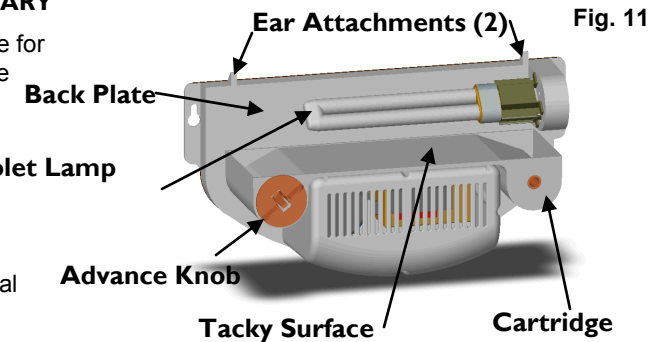

Fig. 11
2. Fig. 10 is a back view of the sconce attachment features. The sconce has open slots for ease of assembly, disassembly, and ease of cleaning. The back frame (Fig.11) has two ear attachments, that fit into slots on sconce (Fig.10). Simply align the sconce slots over the ear attachments. When you wall mount the unit, sconce will be firm against the wall. When you base mount the unit, sconce will rest on the back plate and base.
The tacky surface of the Cartridge advances slowly and remains effective up to 30 days, under normal use depending on the volume of insect catch. (Fig. 11)